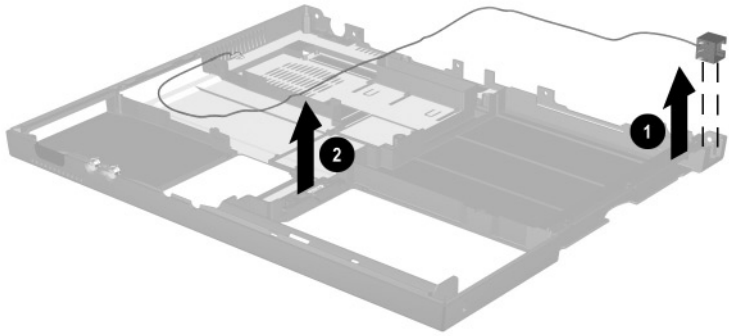

Figure 5-38. Removing the Modem Cable
3. Lift the modem connector out of the base enclosure ❶ and disengage the modem cable ❷ from the alignment clips and tabs in the base enclosure (Figure 5-38).